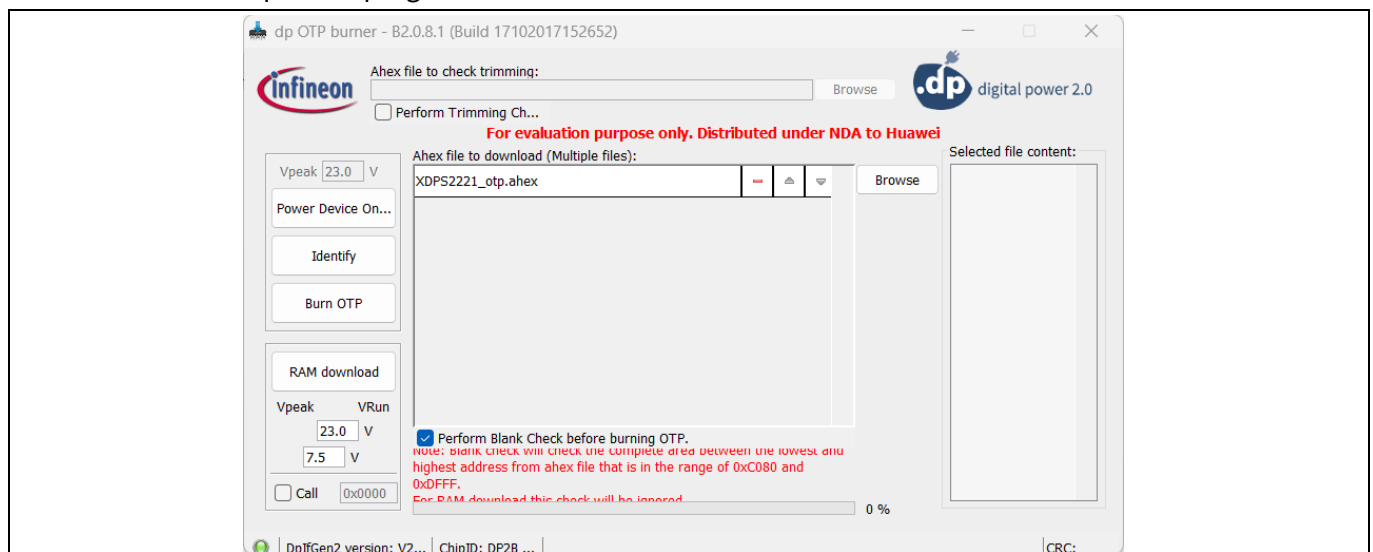

Figure 8 .dp vision programming interface to XDPS2221
2. After connecting the .dp vision programmer, click the **Power Device On...** button to power up the .dp vision programmer, as shown in Figure 8.
1. Connect the 140 W Solution Board input to the AC terminal of the power meter (which must be connected to the programmable AC supply beforehand), as shown in Figure 8.
3. Connect the electronic load at the PAT tester load terminal, as shown in Figure 8.